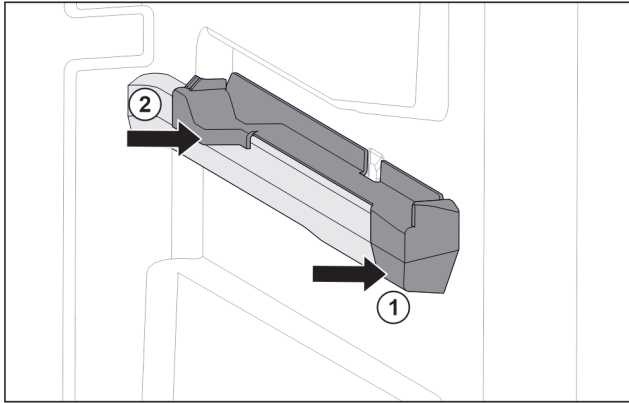

Fig. 80 Attachment on the right moulded rib
- ▶ Position attachment on moulded rib at the front. Fig. 80 (1)
- ▶ Press on attachment at the back. Fig. 80 (2)